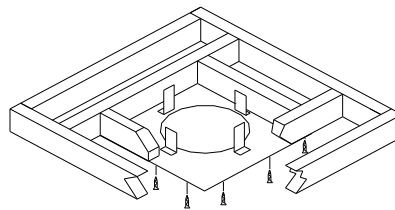

Figure 27- Installing Firestop
1. Cut a 10" square hole in the ceiling using the locating hole as a center point. The opening should be framed to 10" x 10"(254mm x 254mm) inside dimensions, as shown in Figure 27 using framing lumber the same size as the ceiling joists. If the area above the ceiling is an insulated ceiling or a room, nail firestop from the top side. This prevents loose insulation from falling into the required clearance space. Otherwise, install firestop below the framed hole. The firestop should be installed with no less than three nails per side (see Figure 27).